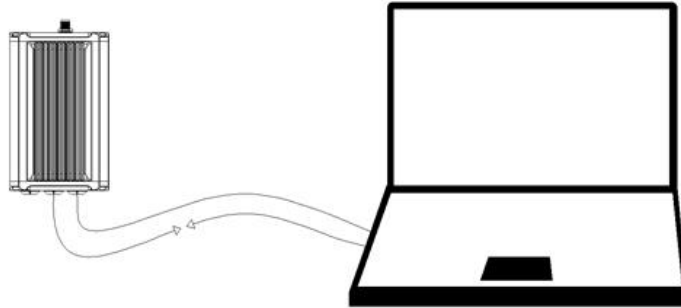

Figure 3.6 Outline of David connected to a Computer
1. Follow the connection in Figure 3.6 and the detailed steps in section 3.4.1 to create communication between a David receiver and Tersus GNSS Center.